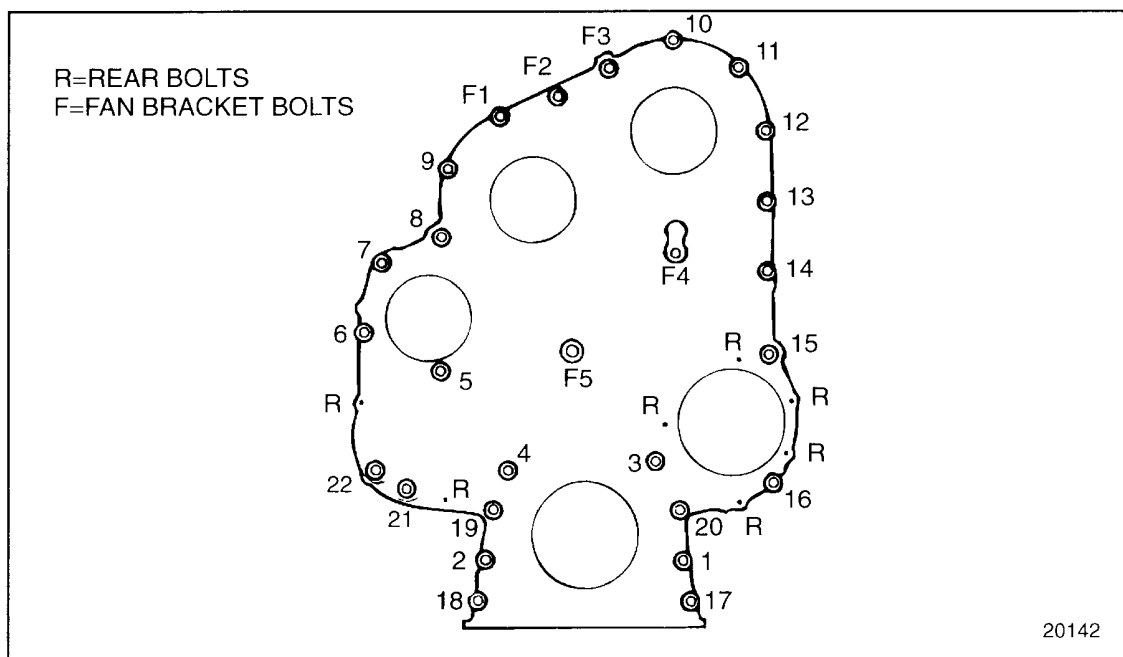

Figure 1-161 Gear Case Cover Bolt Torque Sequence (Front)
- [a] Install the shorter bolts, No. 1 through 16, 21, 22, in various locations at the front of the gear case cover. Tighten them finger tight. See Figure 1-161. Remove the guide studs when installing bolts 7 and 14.
- [d] Torque bolts 17, 18, 19 and 20 to 160-200 N·m (118-148 lb·ft). See Figure 1-161.